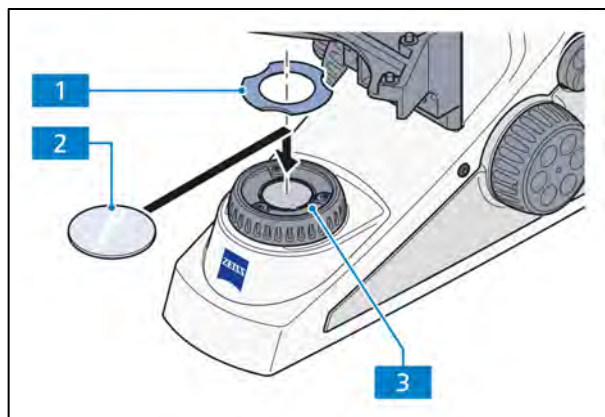

Fig. 2-16 Filter mount on luminous-field diaphragm operating ring for filter $d=32 \times 4$ mm
- Place the filter (Fig. 2-16/2) on the luminous-field diaphragm operating ring (Fig. 2-16/3).
- To secure the filter, insert the filter clamp (Fig. 2-16/1) on the luminous-field diaphragm operating ring.